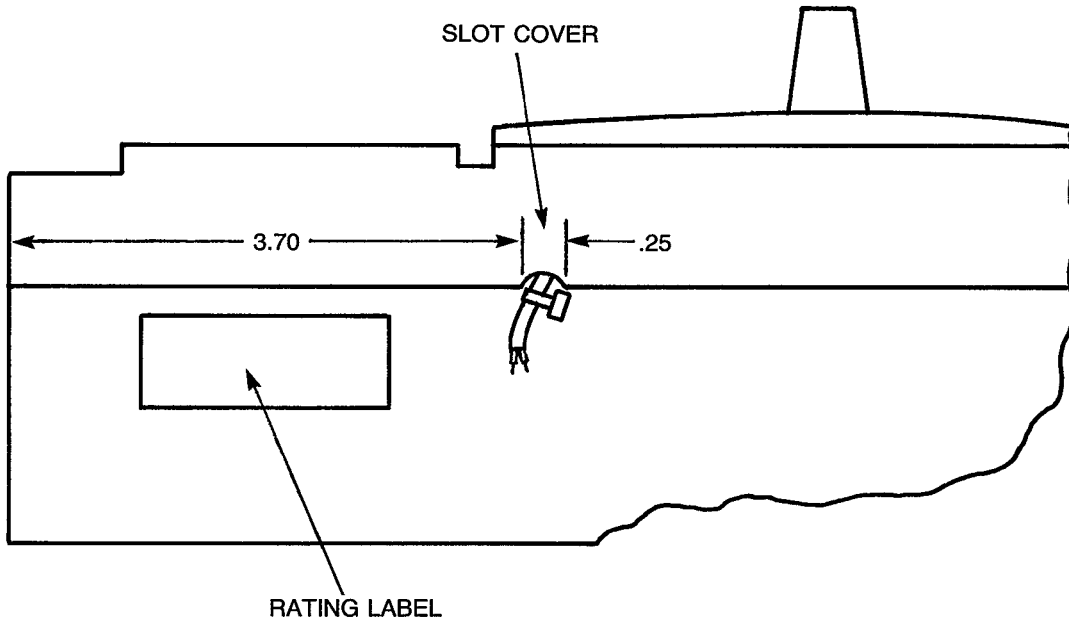

Figure 7. Sketch of the side of the circuit breaker, showing the locations of the wire slot and the new rating label.
10. Make a slot in the breaker cover to accommodate the accessory leads, as illustrated in Figure 7. Replace the circuit breaker cover and tighten the cover mounting screws.